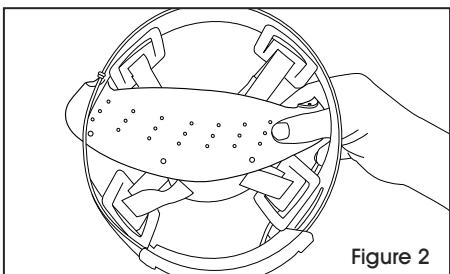

Figure 2
2. Pull the sweatband through the inside of the plastic suspension, and attach the second flap. (See Figures 2 and 3)